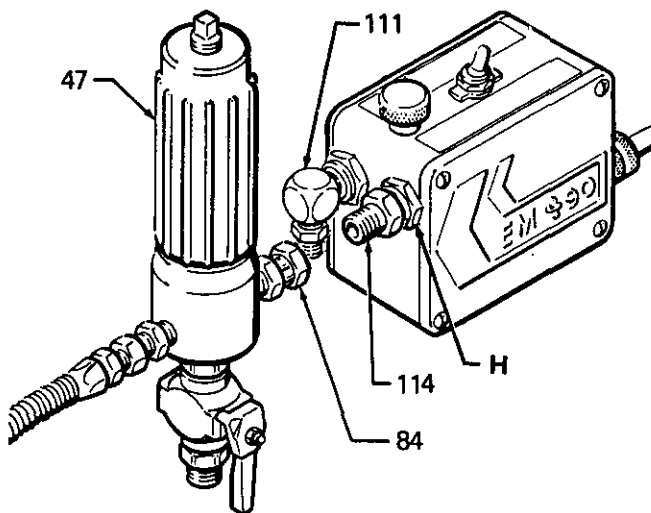

Fig 22
Hold the nut (H) at the pressure control with a wrench and unscrew swivel union (84) from nipple (114). Remove filter (47). See Fig 22.